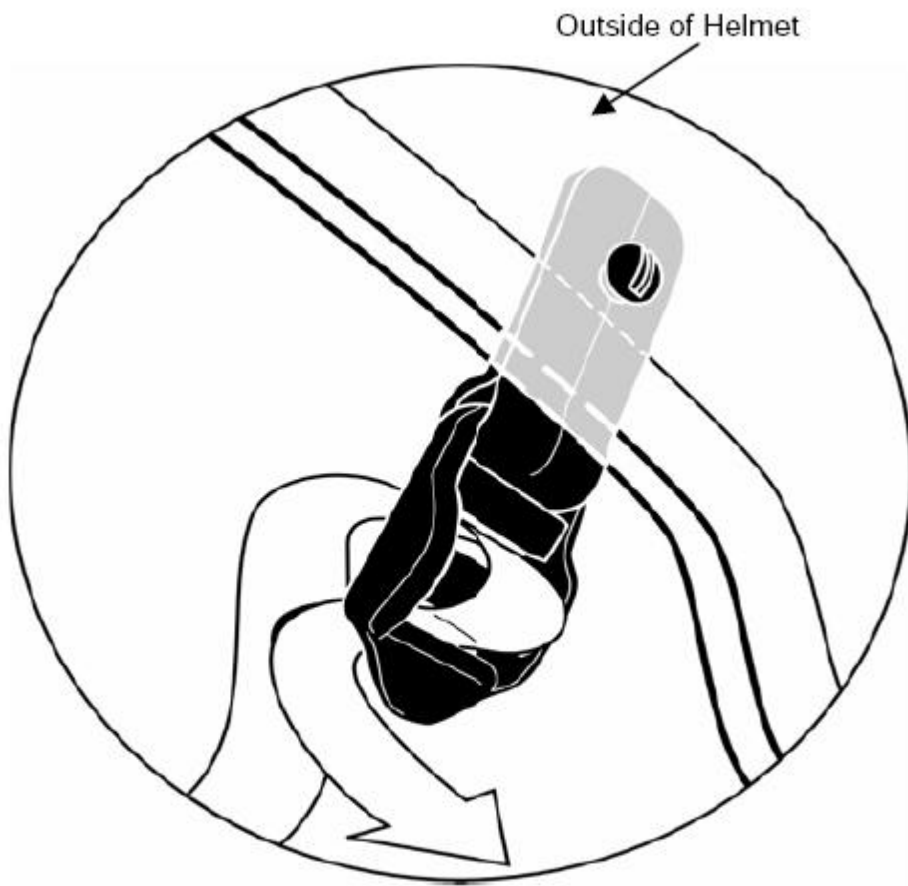

Figure 2. Routing of Chin Strap Webbing through Buckle (All Models)
3. Insert and thread the four legs of the chin strap into their corresponding buckles (Figure 2).